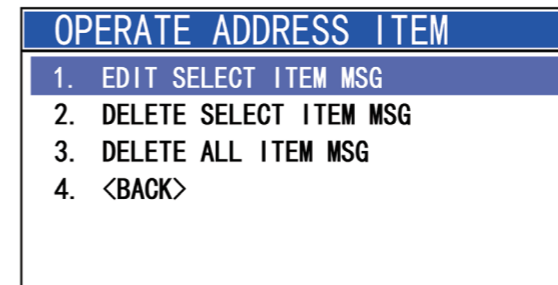

Figure 6.2.1
- b: Turn the channel knob to select the entry to edit and press [CH/ENT] to open the entry operation dialog, as shown in Figure 6.2.1.